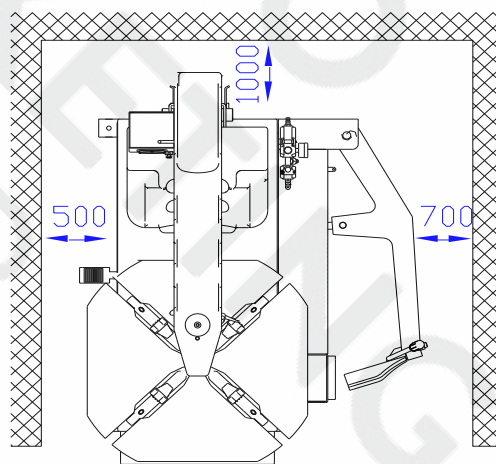

FIG1
The operation space around the machine wills not smaller than the indicated in FIG1
3.2.1 According to the requirement of the FIG1, position the body of the machine onsite. Un-package the accessory box and take out the rotation shaft assembly (FIG3-1) and the push-out shaft assembly (FIG3-2) and clean and spread the lubrication oil.